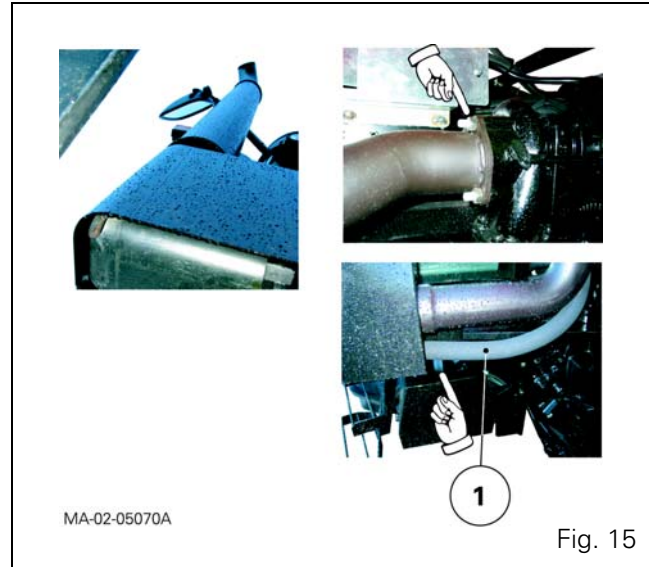

Fig. 15
36. Disconnect the flexible sleeve (1) (Fig. 15) fitted to the suction port.
If necessary, remove the vertical exhaust assembly (including support) (Fig. 15).